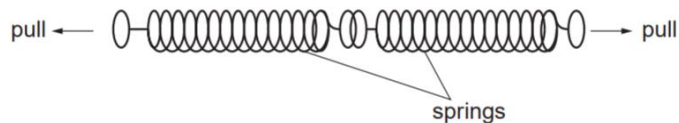

Fig. 6.2
- Two identical springs are connected end-to-end (series). The force constant of each spring is k . The free ends of the springs are pulled apart as shown in Fig. 6.2.